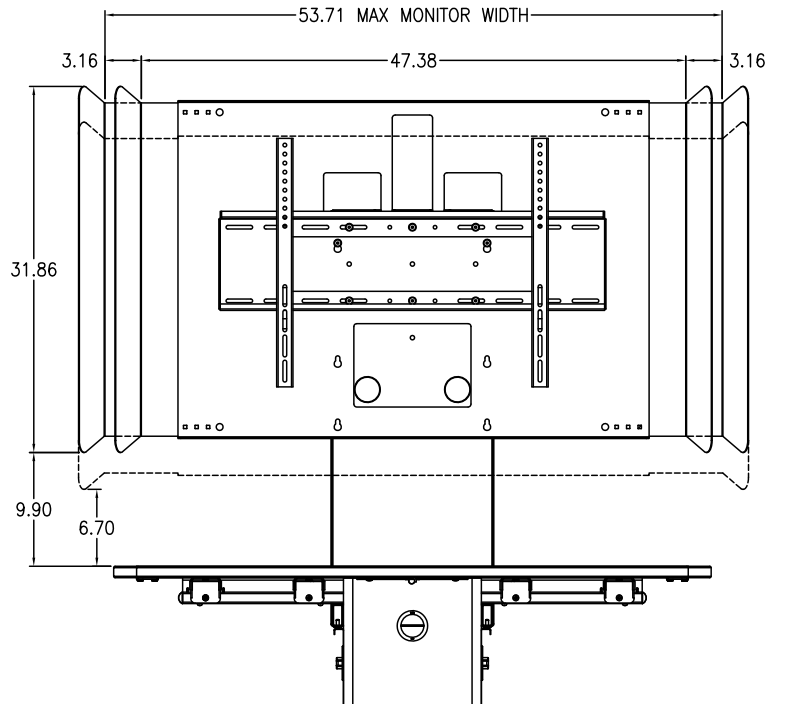

Figure 2A
1. Two sets of mounting holes are available for the shroud / monitor mount. Choose a set of holes based on your monitor size and preferred height. **Figure 2A.** Typical installations use the upper holes for better viewing and clearance.